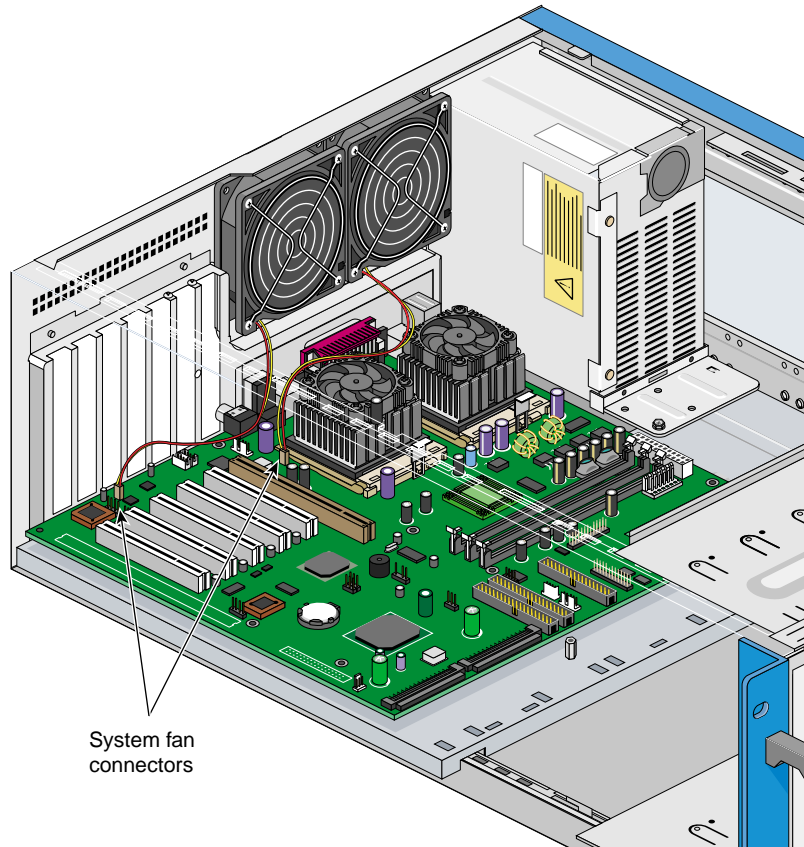

Figure 5-10 System Fan Cables
4. Disconnect the fan cable from the motherboard; see Figure 5-10.
8. Connect the fan cable; see Figure 5-10. For the fan closest to the expansion slots, you might have to lift the cards out of the slots to route the cable.